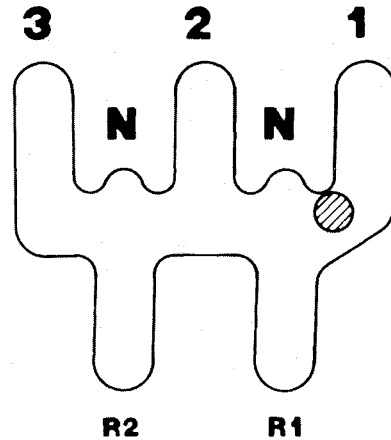

Figure 7
3. Move wheel drive control lever onto the hump between N and 1 (Fig. 7). Hold wheel drive control lever, in this position — on hump.